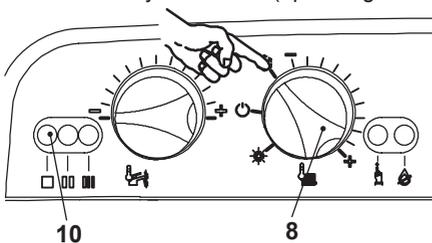

Fig. 2.4
- Turn on the electricity supply to the boiler switching on the fused spur isolation switch. The appliance operation light 10 (Fig. 2.4) will flash every 4 seconds (stand-by condition).
- If the boiler is to be used for C.H. and D.H.W., position the function selector 8 as in Fig. 2.4. The appliance operation light 10 will flash every 2 seconds (operating boiler).